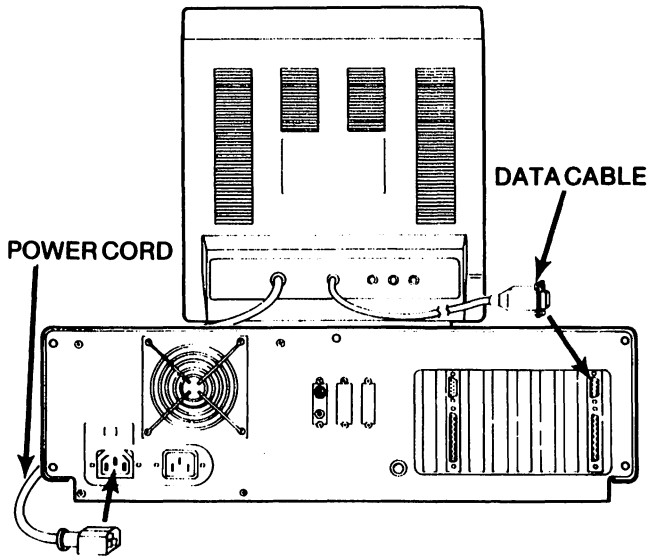

Figure 2-2
1. Connect the video display to the video port at the rear of the system. If your video data cable has the connector shown in Figure 2-2, plug it into the female, 9-pin video port on the video adapter and secure the connector with the attached screws. If you have a composite video display, connect the RCA phono plug (which looks like a radio headphone plug) to the female RCA phono jack on your video adapter board.
2. After you connect the data cable, connect the video display power cable to a power outlet. If your video power cord has the connector shown in Figure 2-2, plug it into the power outlet at the rear of the system unit. Otherwise, plug it into a grounded wall outlet.